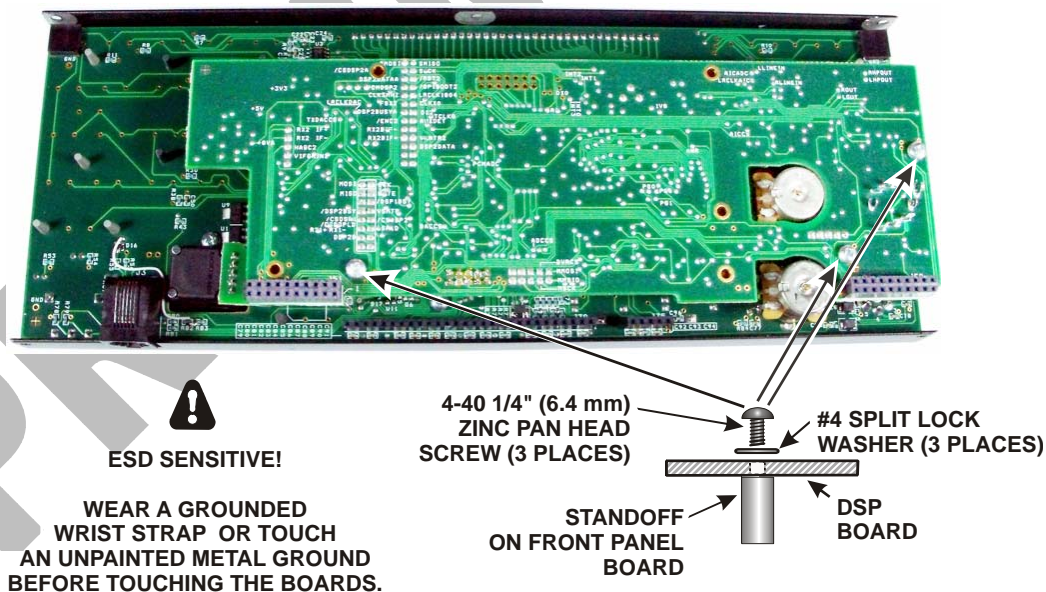

Figure 46. Mounting the DSP Board.
Mount the DSP board on the front panel board as follows. When you are done, the front panel assembly will look like Figure 46.
- Secure the DSP board to the front panel board with 4-40 1/4" (6.2 mm) zinc pan head screws and split lock washers as shown in Figure 46.